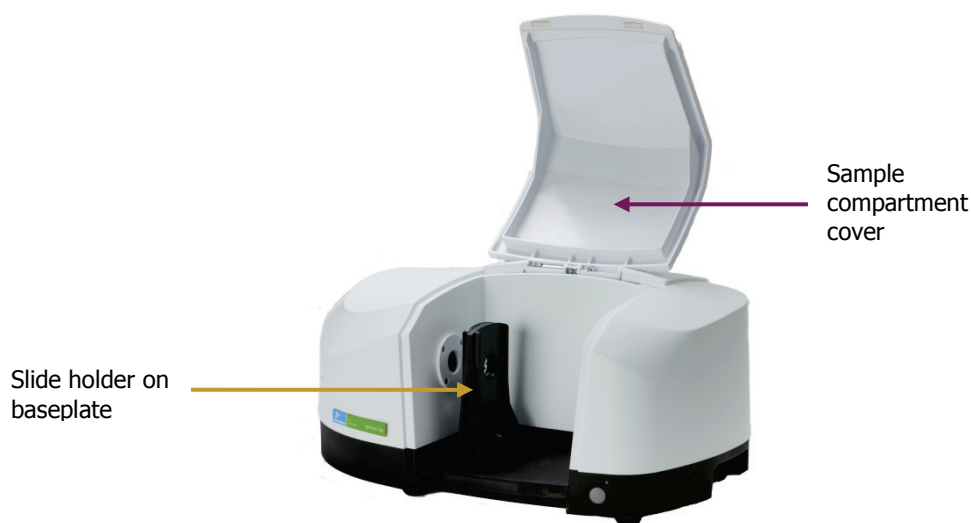

Figure 24 Removing the sample compartment cover
1. If you are installing a NIRM, you will need to remove the sample compartment cover (Figure 24), if fitted.